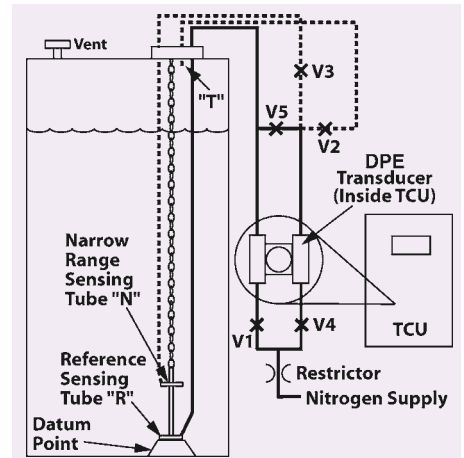

Figure 6 - Auto Calibration
**Auto Calibration** (Figure 6)